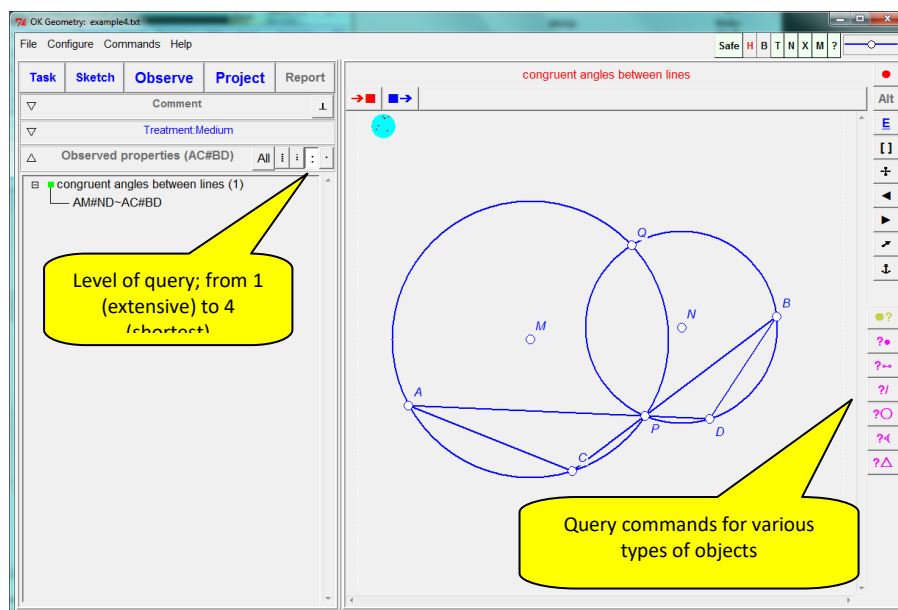
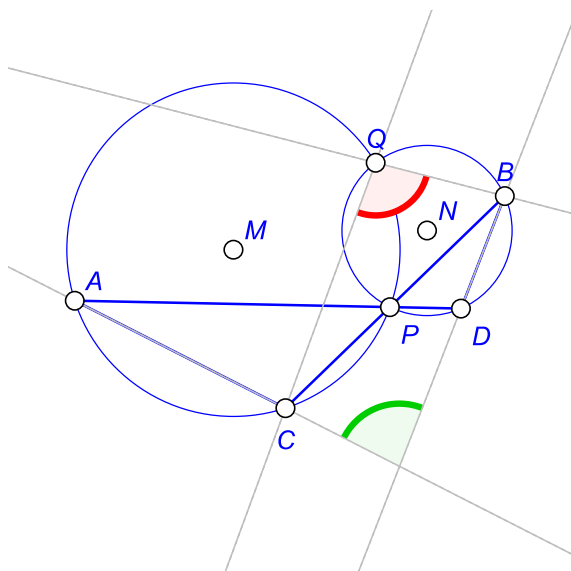

Figure 18
Figure 19
3. On the right taskbar a column of query buttons appears. Click on *QueryAngle*, then pick the segment AC (click anywhere in on the segment) and the segment BD (Figure 18).
4. Select the query level (Figure 18). A higher level (fewer dots) shows more concise information. In our case 1 or 2 (dots) show just one of the angles congruent to the inspected one (Figure 19), while 3 or 4 dots show all angles congruent to the considered one.